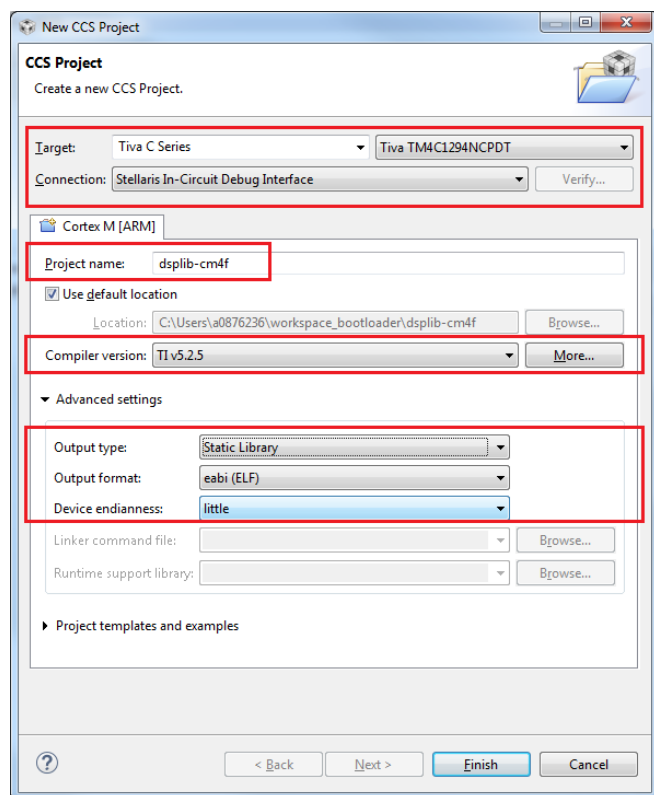

Figure 1. Creating the dsplib Project
3. Select **Target** as **TM4C Series** and then use the drop down menu to select **TM4C1294NCPDT**. Select the **Connection** as **Stellaris In-Circuit Debug Interface** (see Figure 1).